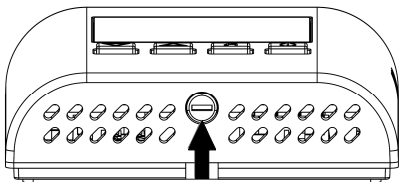

Fig. 2
- 1 Push, with the help of a screwdriver, the plastic tooth located in the slot on the left side, then pull up the plastic cover (Fig. 2).